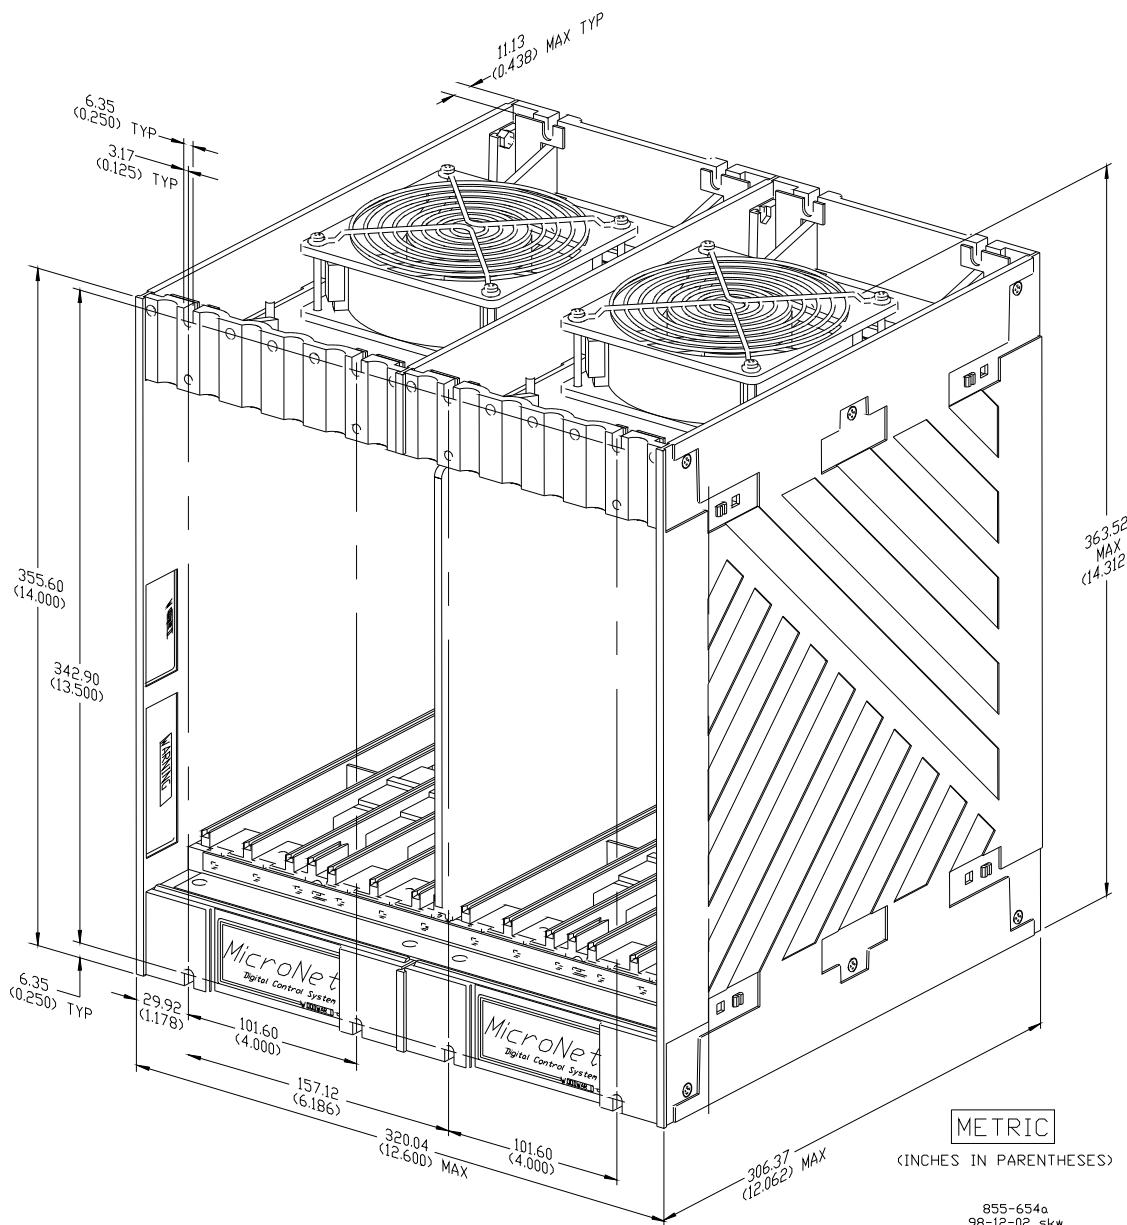
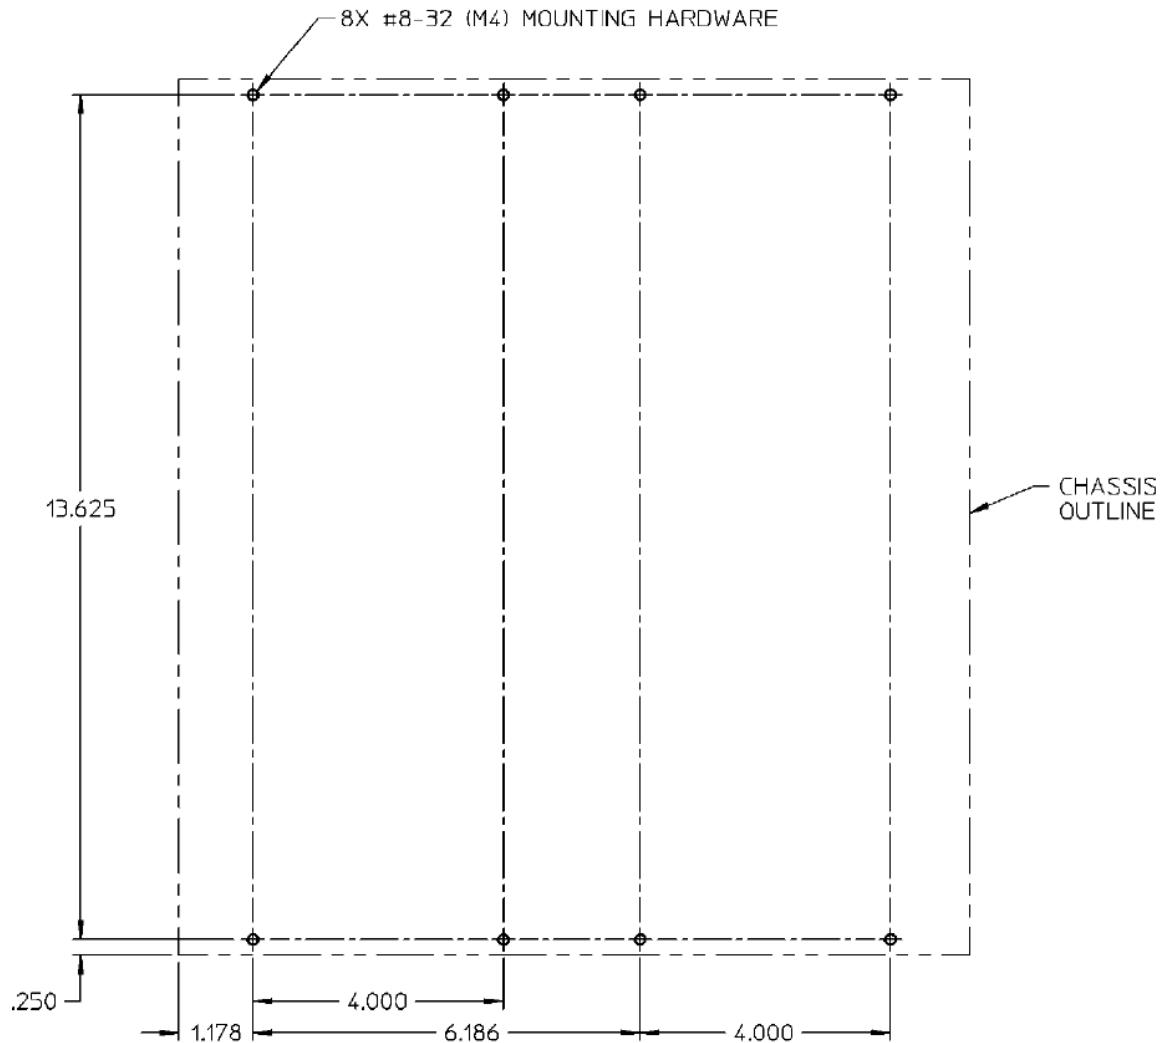

Figure 3-1. Outline Drawing of 505DE Short Chassis
Figure 3-2. Mounting Template for the 505DE Short Chassis (Dimensions in Inches)
1. Mark 505DE chassis mounting hole locations (see Figure 3-2), taking care to leave sufficient space between the chassis and walls, objects, etc. for easy access (see Figure 3-1).
Figure 3-2 shows the mounting template and fasteners to mount the chassis on a bulkhead. Rack mounting is not recommended.